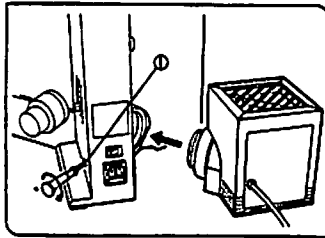

Fig. 11
(Figs. 11, 12, 13)
1. Using the Allen screwdriver, fully loosen the lamp housing clamping screw ① on the microscope.
2. Insert the lamp housing collector unit into the microscope until it touches the lamp housing bracket on the back of the base (lower part), then tighten the clamping screw ①. (Fig. 11)